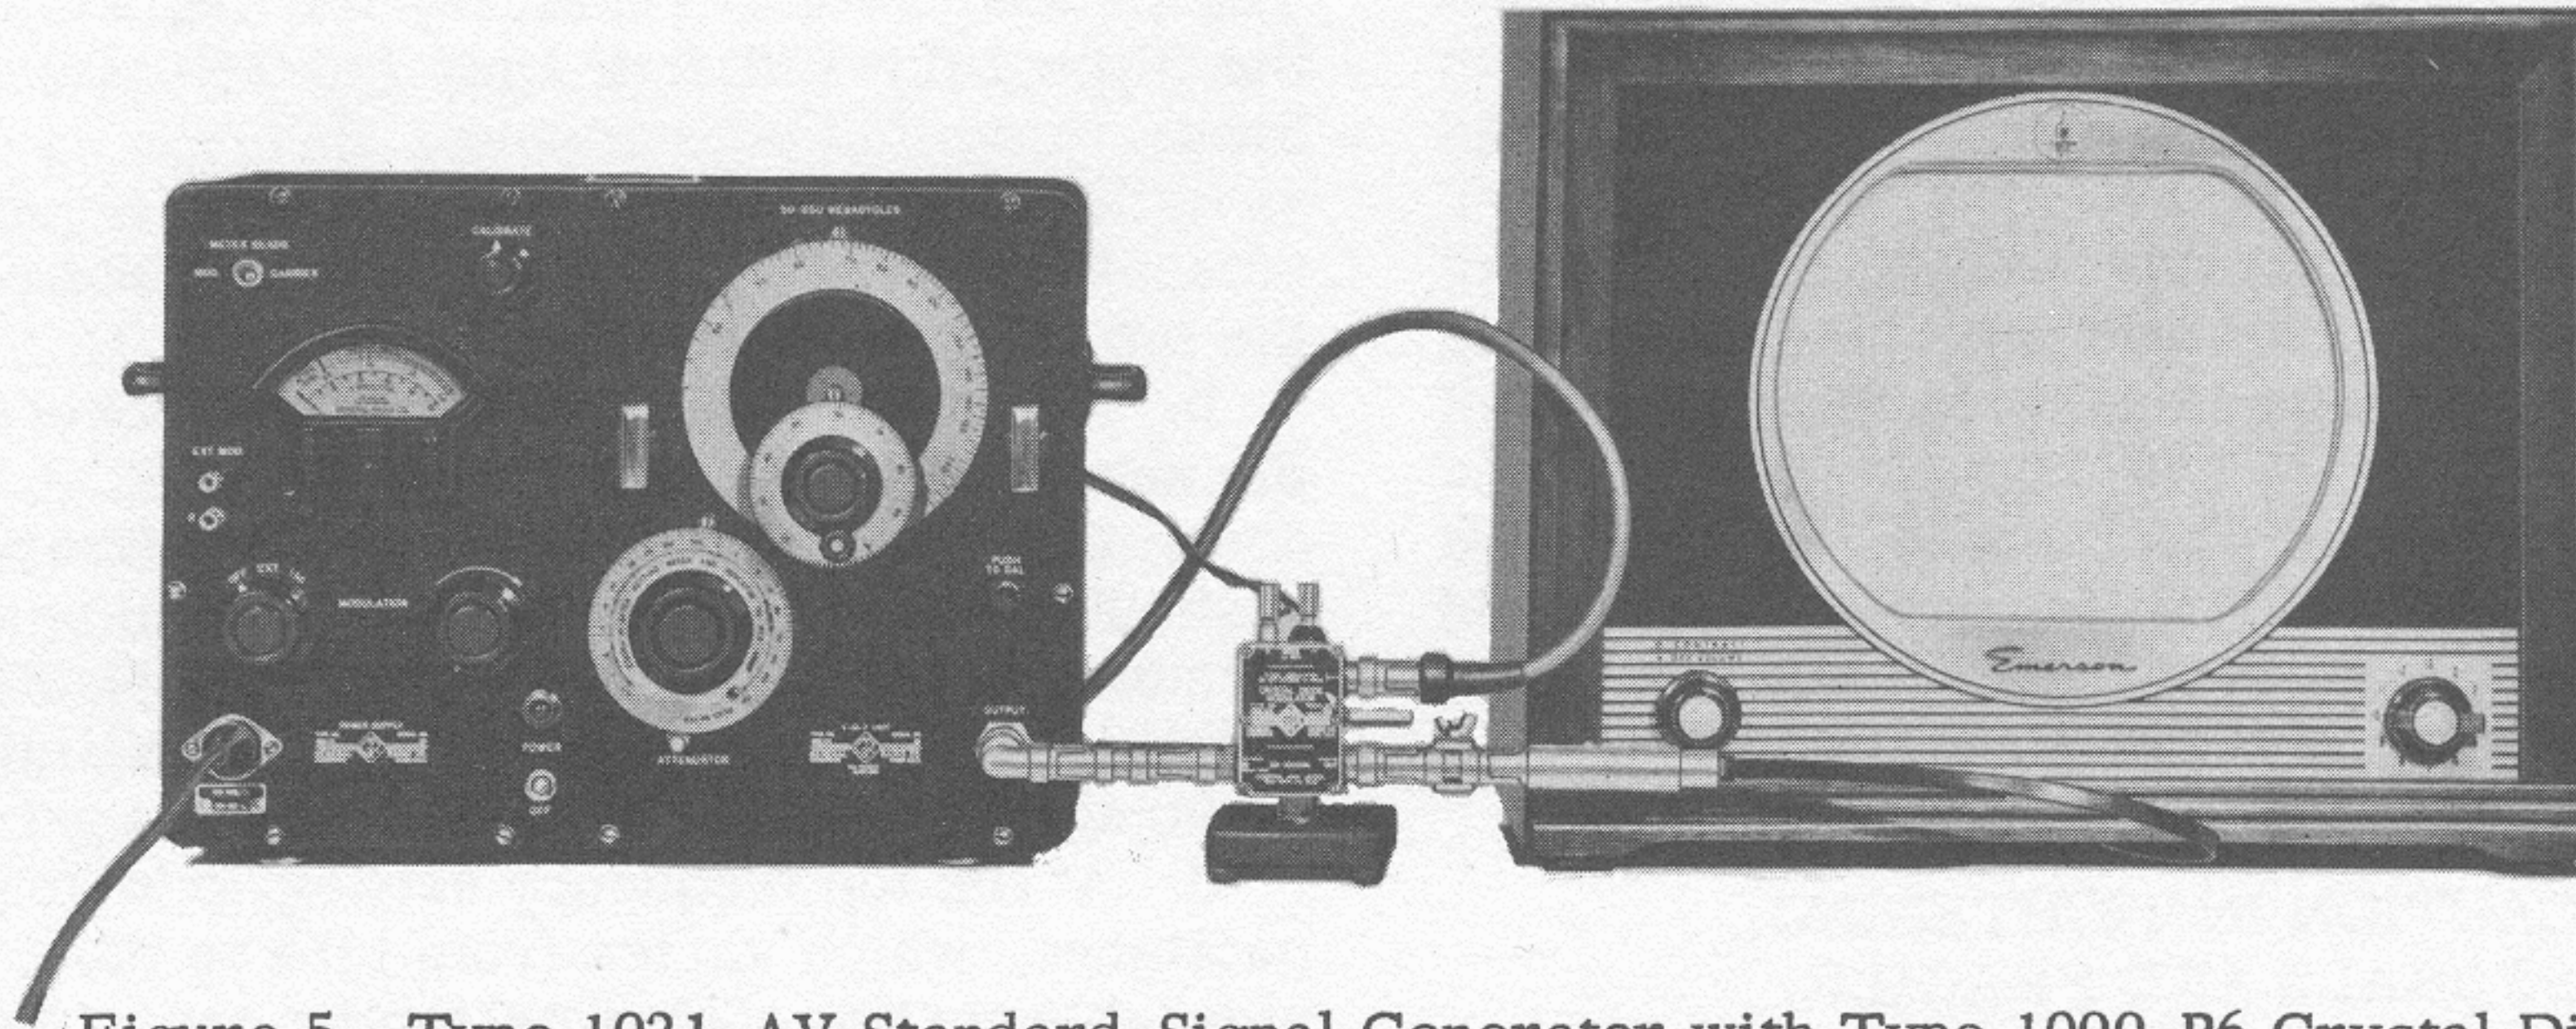

Figure 5. Type 1021-AV Standard-Signal Generator with Type 1000-P6 Crystal Diode Modulator, Set Up for Tests on Television Receiver.
**3.9.2 TELEVISION MODULATION.** (See Figure 5.) In the Type 1000-P6 Crystal Diode Modulator1, modulating-frequency voltages are used to vary the resistance of a Type 1N21-B crystal. Therefore, the r-f output of the Standard-Signal Generator can be amplitude-modulated with no incidental fm if the Crystal Diode Modulator is inserted ahead of the load. The modulating-frequency characteristic is flat from zero to several megacycles, and down only 2 db at 5 Mc. A convenient source of video modulation voltages is a television receiver tuned to a local channel. The Type 1000-P6 Modulator is fitted with Type 874 coaxial terminals for the input and output connections and for the modulation circuit. The modulation range is from zero to about 50 percent. The modulator is designed to operate from a 50-ohm source into a 50-ohm load. To avoid distortion, the r-f input to the crystal modulator must be limited to 50 millivolts. The insertion loss is about 12 db over the r-f range of from 20 to 1000 Mc.